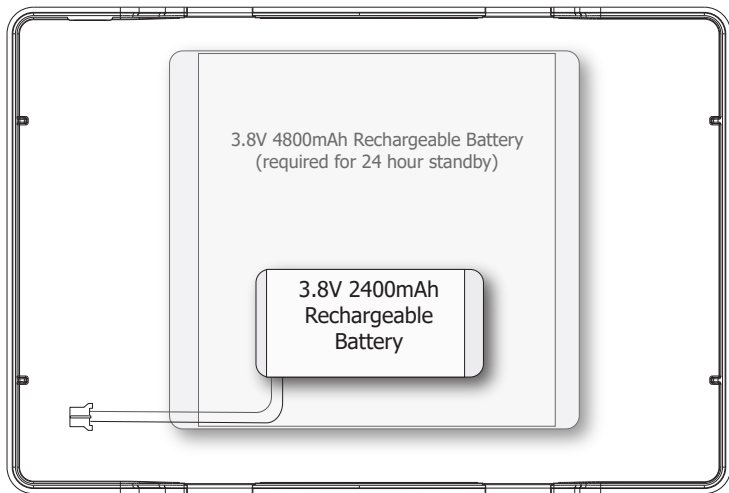

Figure 12: Replacing the Battery
5. Replace the backplate. See Figure 12.